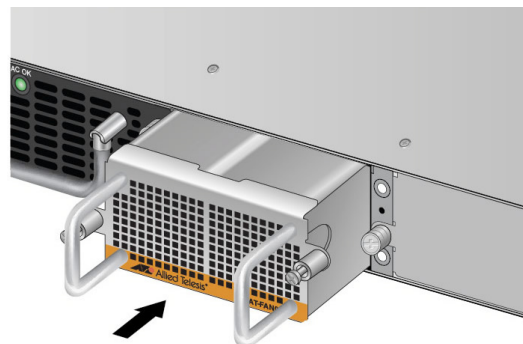

Figure 28. Insert AT-FAN06 Module Into Chassis
3. Gently push the fan module into the slot with the handles on the fan module until the module front panel is flush with the chassis rear panel. See Figure 28.